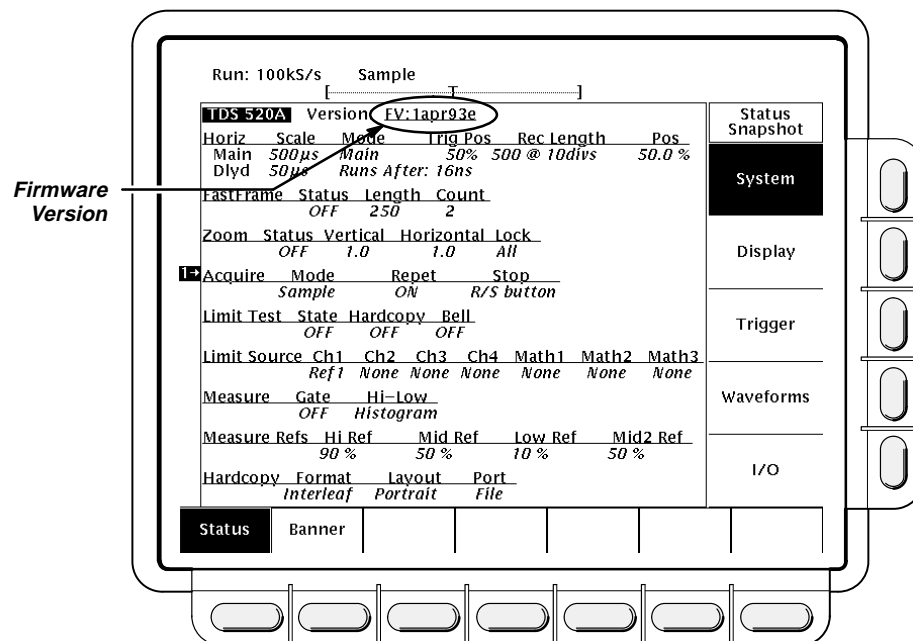

Figure 3-74: Status Menu — System
- **System** displays information about the Horizontal, Zoom, Acquisition, Measure, and Hardcopy systems (Figure 3-74). This display also tells you the firmware version.